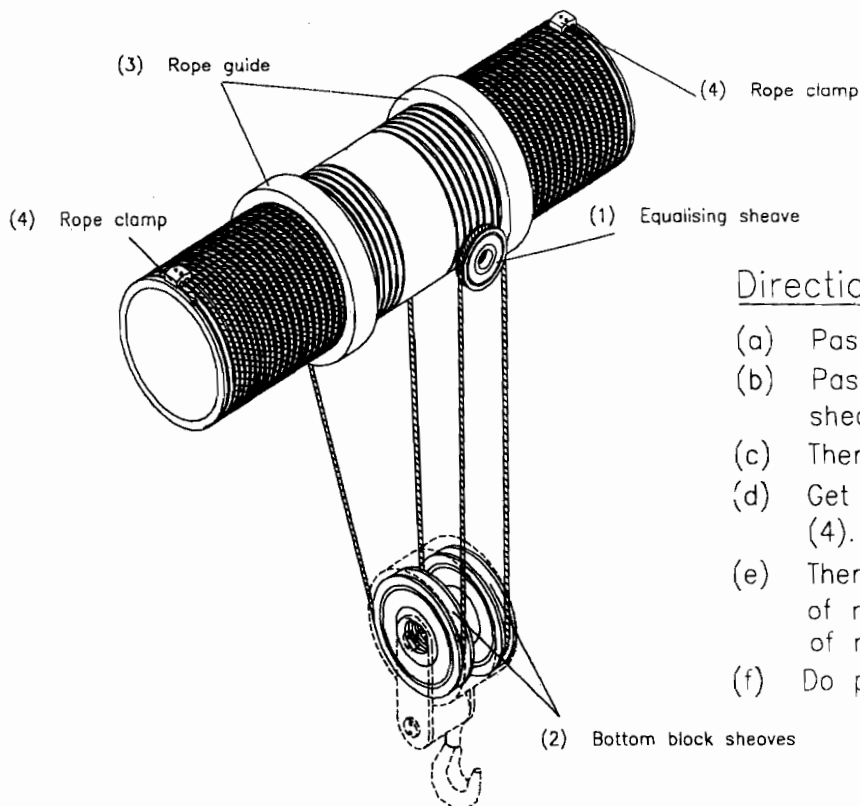

Fig 5: Rope Reeving for 4/2 Arrangement
The hoist is shipped duly reeved with wire rope & hook block assembly and is normally in readily installable condition. However in rare cases, during transit or long storage at site the rope may need to be changed. The following steps as illustrated in figure 5 need to be followed.
- a) How a kink starts (See fig. 5)